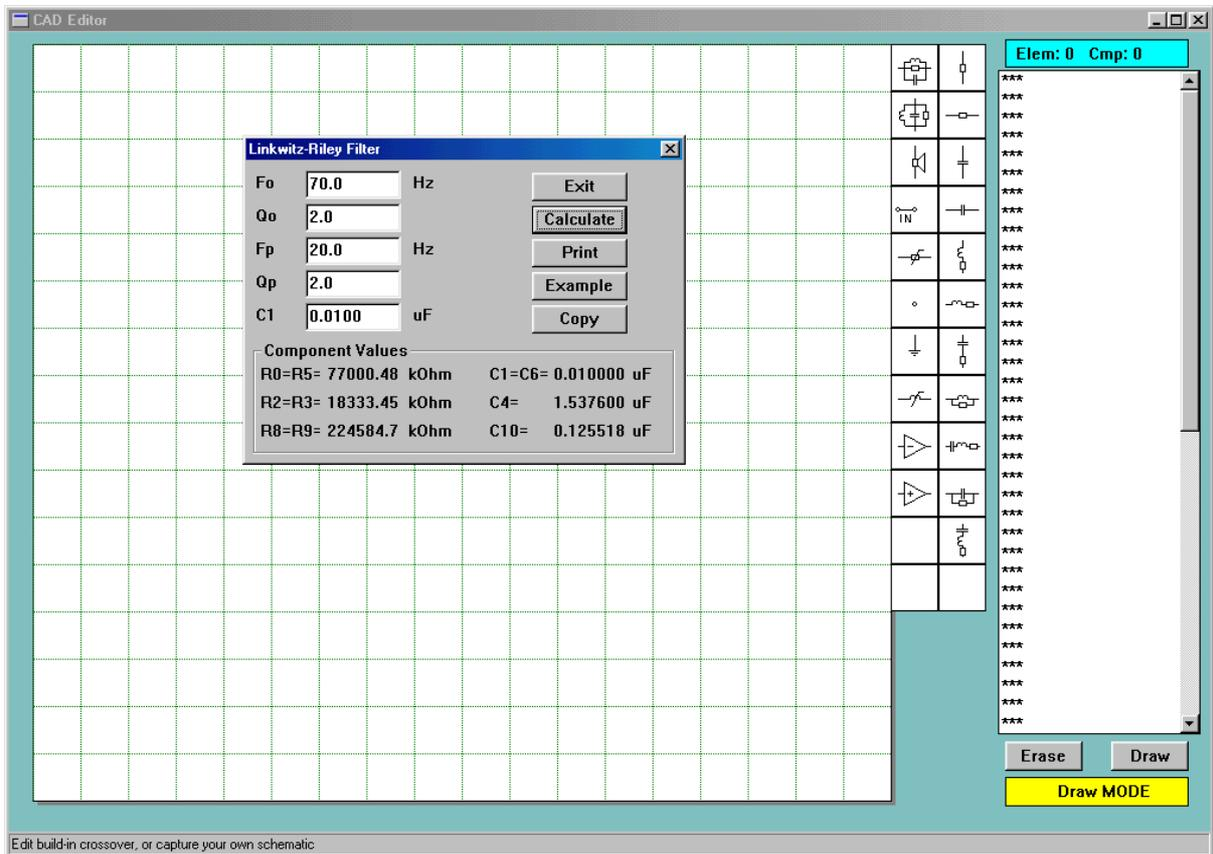

Fig 2.8 Linkwitz-Riley Filter
5. Linkwitz-Riley Filter (Fig. 2.8).
- * Linkwitz-Riley - Invokes built-in filter calculator - refer to Fig 2.8.
- * Save options - Allow the model on the screen to be saved as: (1) acoustic impedance model, (2) electrical impedance model and (3) passive/active CAD model.